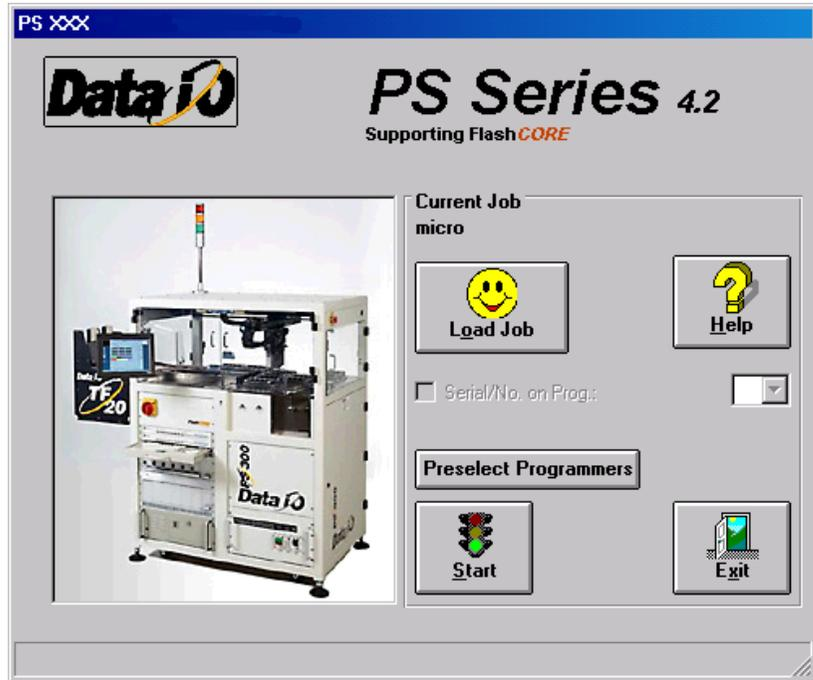

Figure 2-10—Main window
- 2a) From the Handler Computer interface, stop any job that is running and exit to the main window as shown in *Figure 2-10*.